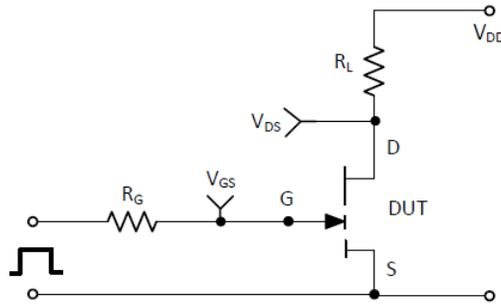

Figure 16: switching time test circuit
(4) See Figures 16 and 17 for timing test circuit diagram and definition waveforms